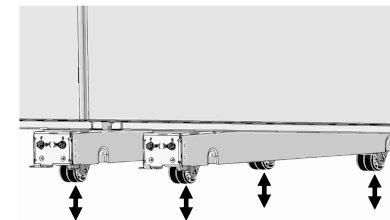

Fig. 1
- If you use the dual installation trim kit, install the levelers on the units before installing the heater (Fig. 1).